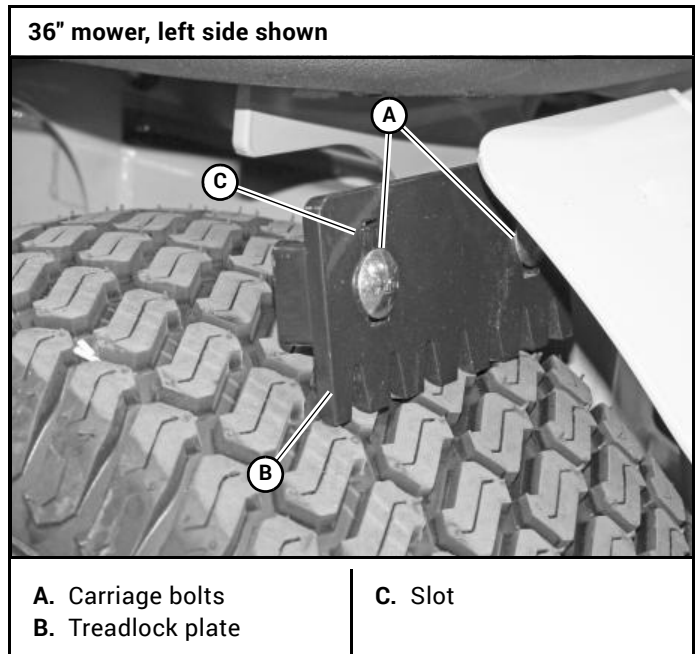

Figure 4-14
2. Treadlock plate (left side) – Loosen both the carriage bolts that hold the treadlock plate in place. Figure 4-14
4. Adjust the left treadlock plate so that the gap between it and the tire is .75". Figure 4-14